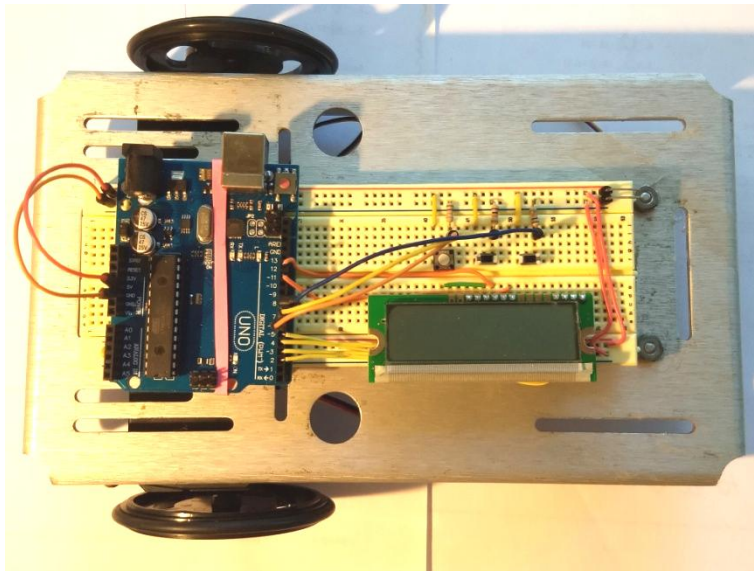

Figure 10. Positioning the breadboard.
- 3. Peel the backing from the velcro, and press the breadboard onto the robot chassis, as shown in Figure 10. Align the board's front edge with the holes where the standoffs protrude through the chassis.**